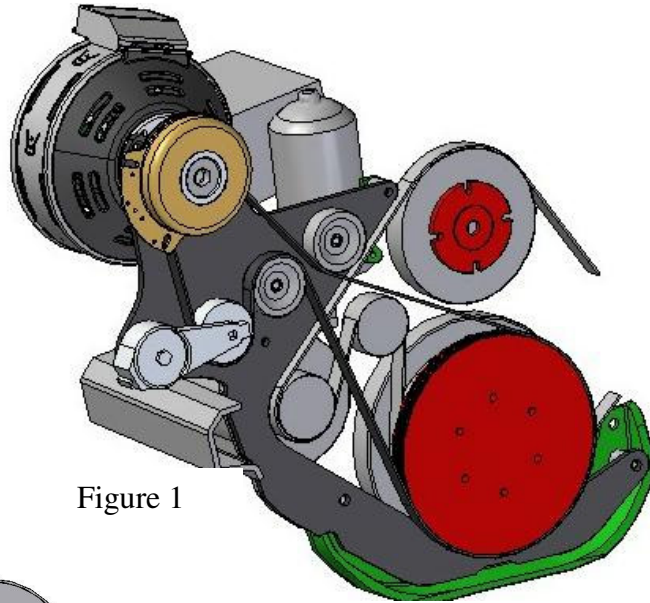

Figure 1
**Figure 1** provides an overview of the Raven bracket and drive components to be installed and their mounting locations. We suggest you take a minute before proceeding to review the steps below to familiarize yourself with the parts and their mounting locations.
The generator bracket mounts on two forward motor mount yoke bolts, one engine bolt, and utilizes the two upper OEM generator bolts. (See **Figures 1, 2,3**)